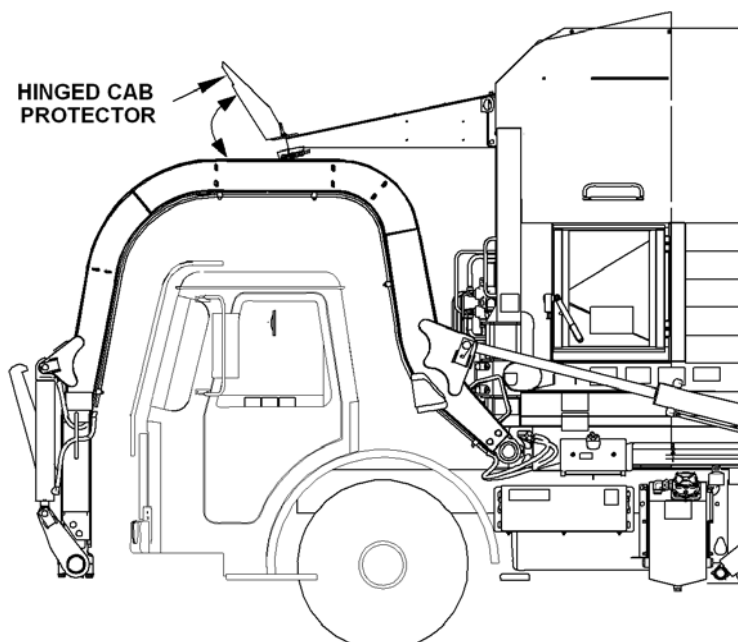

Figure 37. Moving the Cab Protector
- AFTER you tilt the cab back to its normal position, LOOSEN the turnbuckles, LOWER the cab protector and TIGHTEN the turnbuckles. See Figure 37.